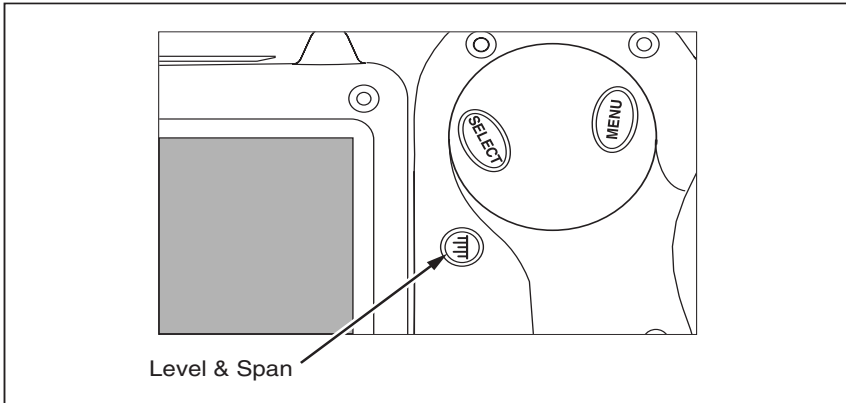

Figure 1-6. Setting the Level and Span
1. Press  as shown in Figure 1-6 to automatically set the camera's temperature level and span.